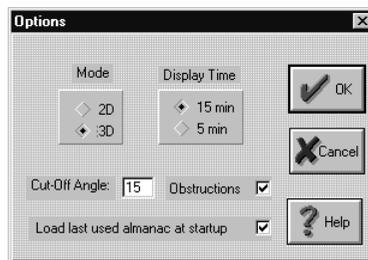

Figure A.8. Options Dialog Box
To open the **Options** dialog box, Figure A.8, select **Options** from the **Setup** menu.
1. Select **Options** from the **Setup** Menu to open the **Options** dialog box opens (Figure A.8).